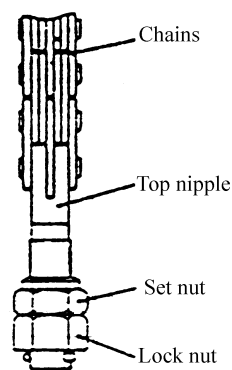

Fig. 8-7
(3) Make the mast tilt backward when forks are descended to the ground, adjust the top joint of lift chains and let the tightness of two lift chains be equal. (Fig. 8-7)